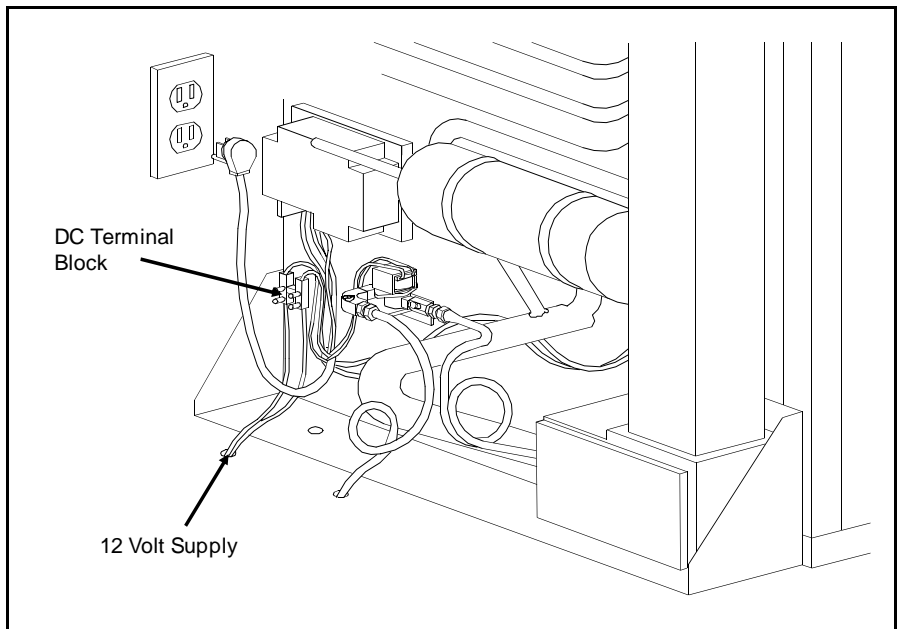

Figure 4.2 12 Volt Supply Connection
1. The 12 volt DC supply voltage connects to the terminal block located at the rear of the refrigerator shown in Figure 4.2.